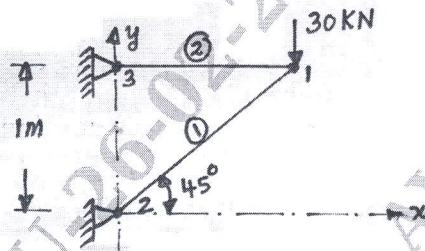

Fig. Q6 (b)
- b. A two-dimensional truss structure is loaded as shown in Fig. Q6 (b). Determine